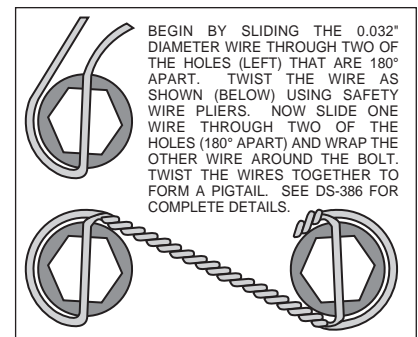

Figure 3. Safety Wire Diagram
- Slide bolt (3) through washer (2) from the backside of the modified OEM caliper mounting bracket. Apply red *Loctite*® 271 to the caliper mounting bracket bolt threads (3) before installation of the caliper mounting bracket (1). Install the caliper mounting bracket (1) with the threaded inserts facing the outside of the vehicle. Finger tighten. Repeat for the lower mounting holes. Torque bolts to 40 ft-lb.
- With the larger I.D. side of the rotor (4) facing away from the hat (5), bolt rotor (4) to hat (5) through the back side of the rotor using washers (6) and bolts (7). Using an alternating sequence, apply red *Loctite*® 271 to the threads and torque bolts to 140 in-lb. For an added measure of security, the bolts may be safety wired using standard 0.032 inch diameter stainless steel safety wire as shown in Figure 3. Please refer to Wilwood's data sheet DS-386 (available at www.wilwood.com/Pdf/DataSheets/ds386.pdf) for complete safety wire installation instructions. Slide the rotor/hat assembly onto the hub. Install a couple of lug nuts (finger tighten) to keep the rotor/hat assembly in place while continuing with the installation.